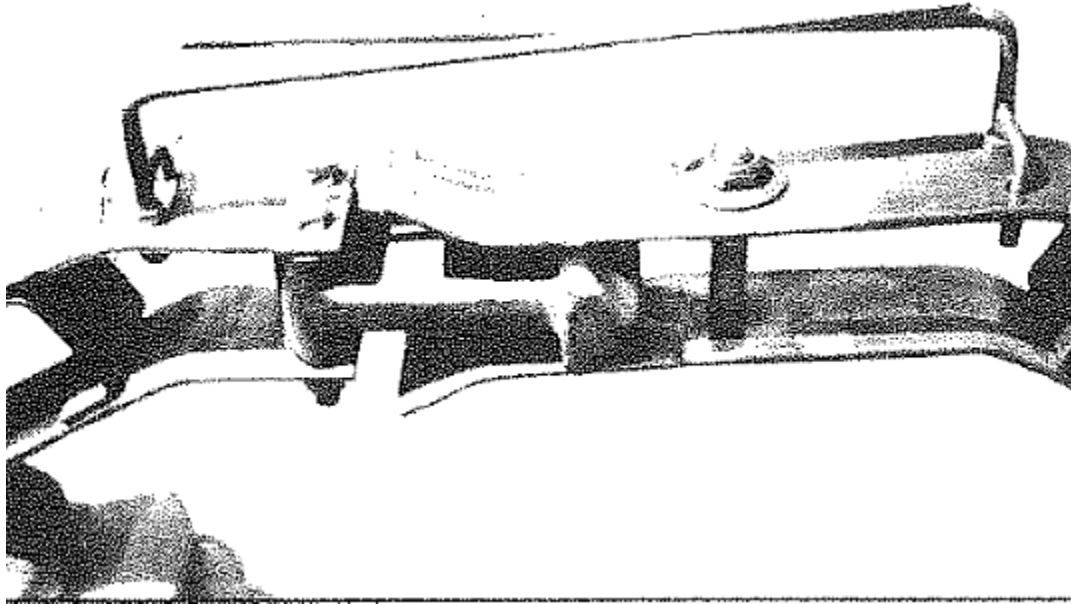

Figure 6: Optional Arcing Horn in Closed Position
1. With switch in closed position, adjust horns to make contact (**Figure 6**).